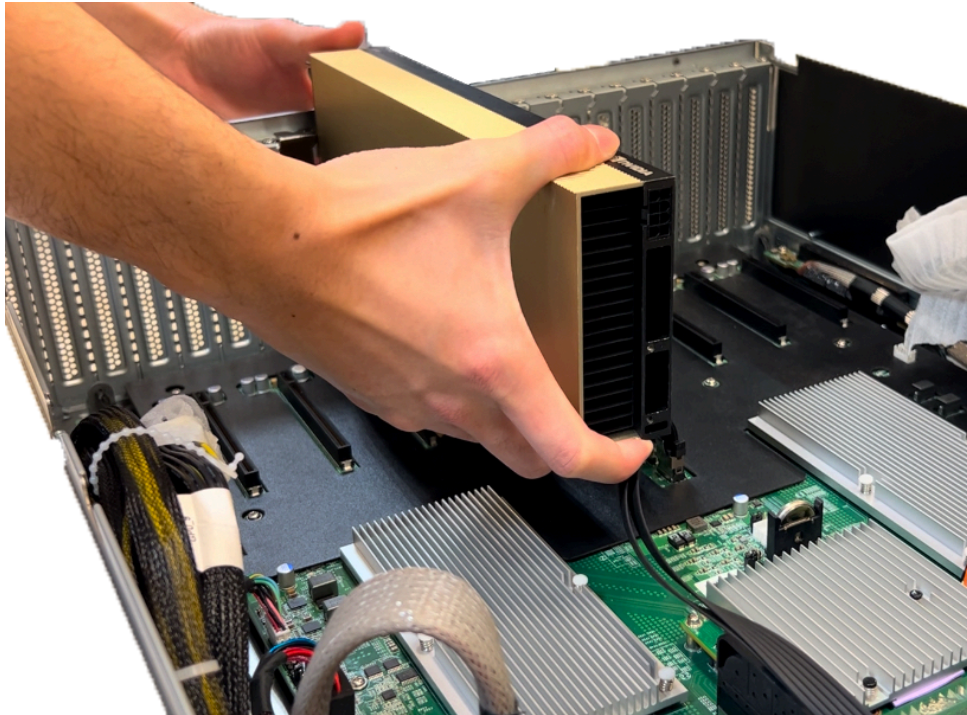

Figure 31. Inserting a Dual-Width GPU into the PCIe Slot
2. Press the GPU vertically into the slot until it is securely seated (refer to Figure 31).